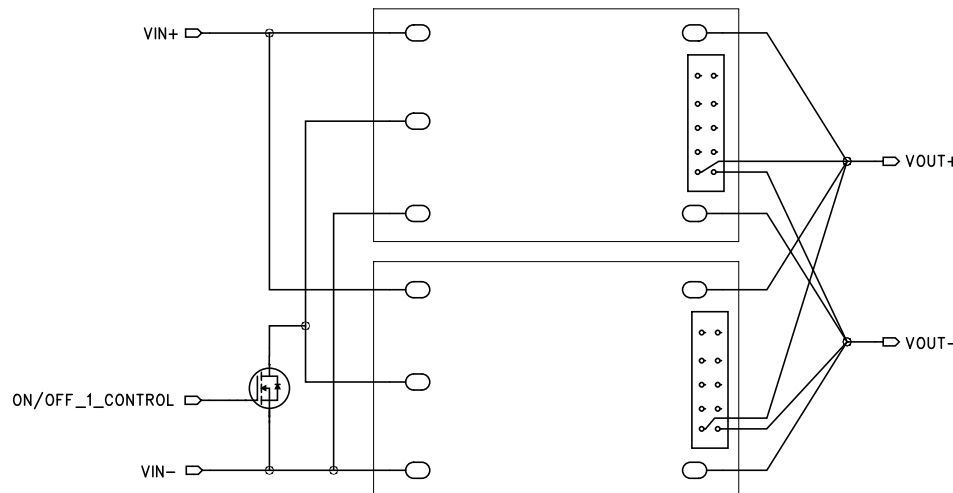

Figure 3. Load Sharing Block Diagram
Two or more converters may be connected in parallel at both the input and output terminals to support higher output current (total power, see figure 3) or to improve reliability due to the reduced stress that results when the modules are operating below their rated limits. For applications requiring current share, followed the guidelines below. The products have a pre-configured voltage. The stated output voltage set point is at no load. The output voltage will decrease when the load current is increased. The voltage will drop 0.35V while load reaches max load. Our goal is to have each converter contribute nearly identical current into the output load under all input, environmental and load conditions.
- +Vout and –Vout of all parallel units should be connected with a balance output impedance; +Sense and –Sense should be connected together with PMBus option (see figure 3).